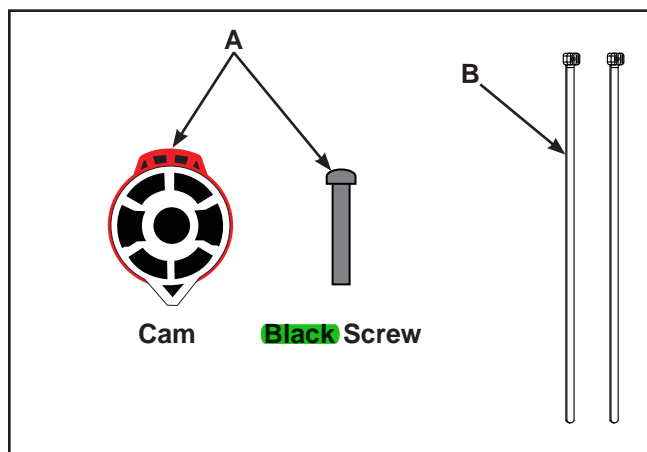

Figure 1
2. Verify the kit contents shown in Figure 1.
- A. Kit, Preset Cam Assembly, With Screw (1), KAX-22891
- B. Wire Tie, 9" (2), EH-00986
A. Locate the cam and **black** screw from the kit. See Figure 1.